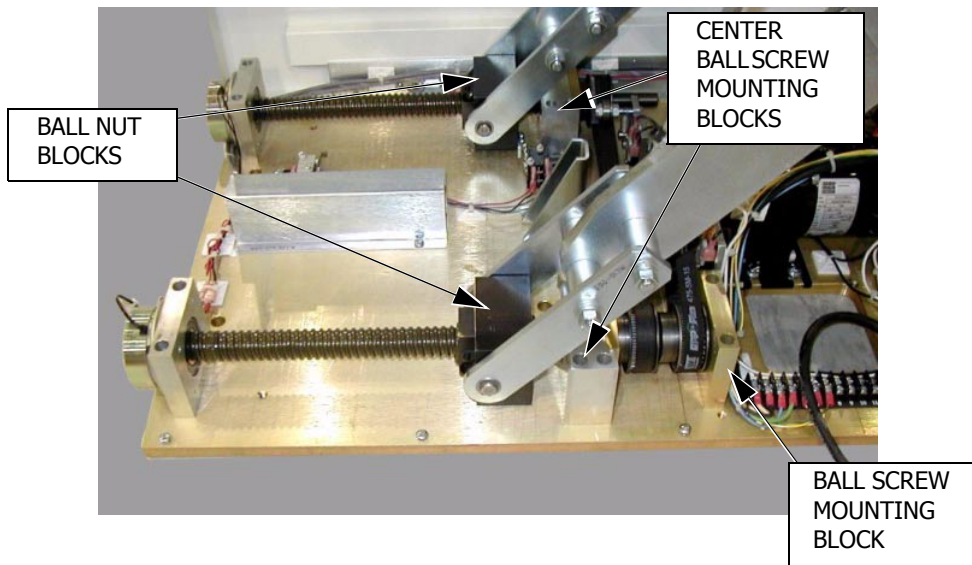

Figure 19. Ball Nut and Screw Mounting Block Locations
11. Verify the distance between Ball Nut Blocks and center Ball Screw Mounting Blocks (see Figure 19) are equal (± 0.003 "). If not, rotate either shaft until distances are equal (within tolerance). This is to ensure equal torque on both Lead Screws.
12. Install Ball Screw Mounting Block on pulley end of Lead Screw and secure to Table Base Plate using two (2) 1/4-20 socket head cap screws.